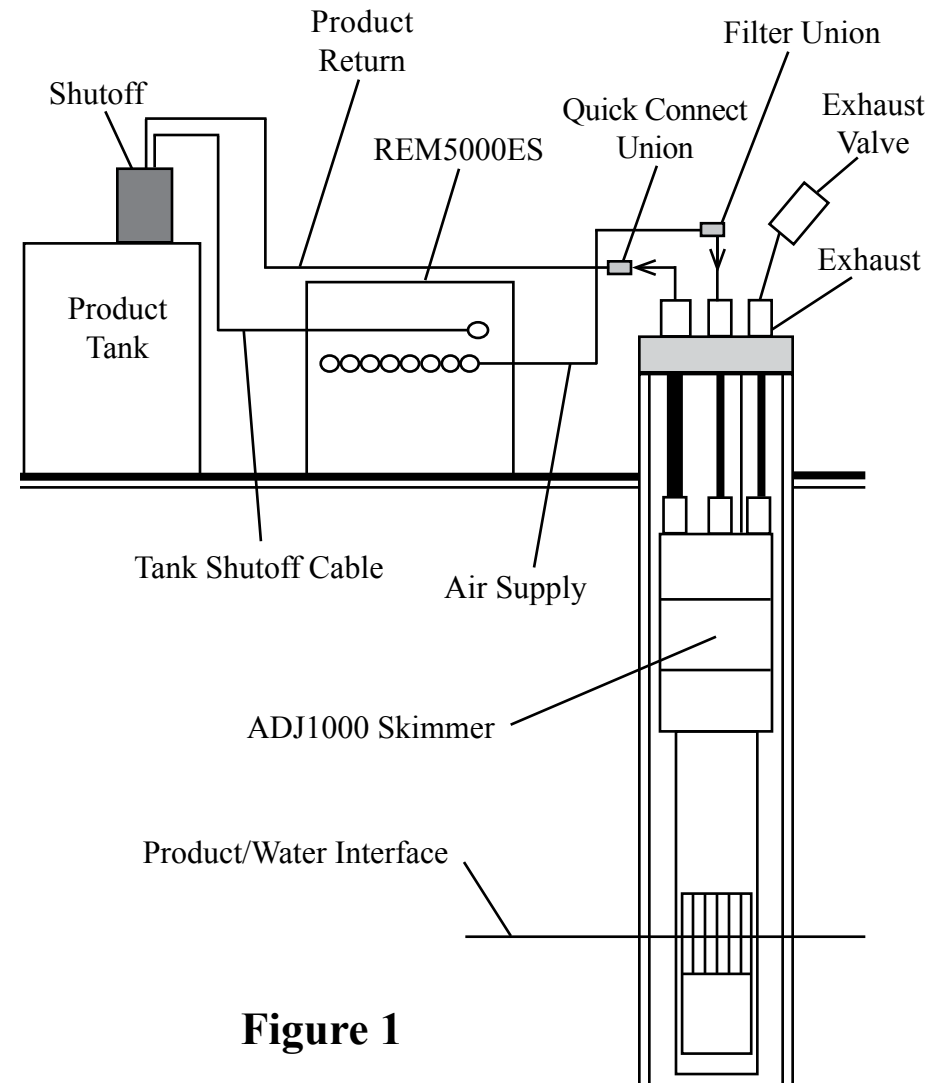
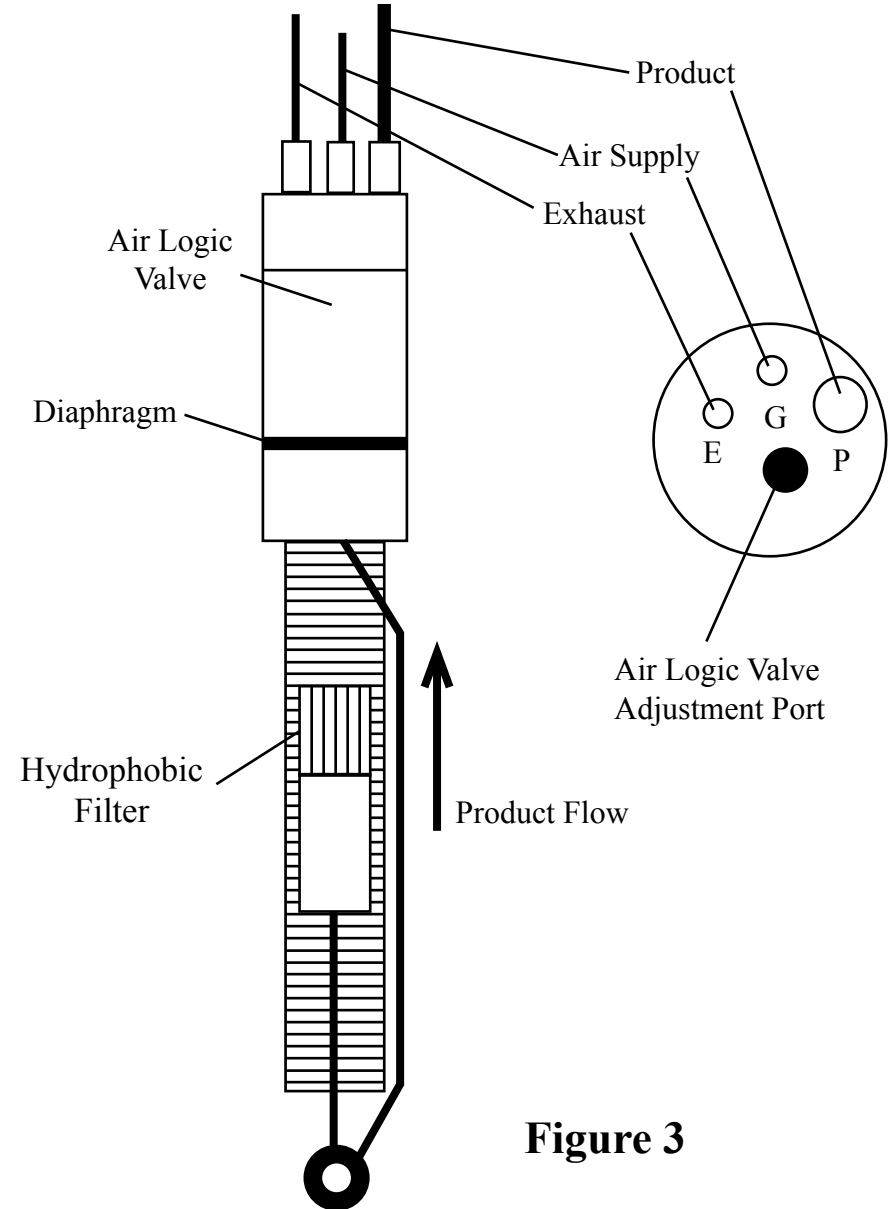

Figure 1
Figure 3
The system (Figure 1) relates to floating hydrocarbon recovery in wells two inches in diameter and larger. This system includes: an intrinsically safe ADJ1000 pneumatic Smart Skimmer (Figure 3) which removes only the product to a sheen down to 200 feet deep; and a solar powered Control Station Model REM5000ES which operates up to 8 skimmers intermittently, records run time, and has a high level tank shutoff assembly.
STEP 2. Install holding tank shutoff assembly into holding tank (a 2" standard pipe inlet will be required in the holding tank). The level of product in the holding tank can be set by raising or lowering the liquid level float switch rod. Plug the high level shutoff switch cable connector into the left end of the controller (Figure 1).
STEP 6. Position the skimmer and well cap on the ground near the well. **NOTE:** If the skimmer is over 60 feet deep, use a vented design skimmer. Cut a length of 3/8" OD air supply tubing to cover the distance from the top of the well down to water/product interface, plus 5 feet. Slide enough tubing through the well cap and attach the end of the tubing to the top of the skimmer tube fitting labeled "G" (Figure 3). If the product thickness is greater than 1 foot, position the skimmer's "Black Reference Line" on skimmer well screen 1 foot below top of product. If the product thickness is less than 1 foot, position the skimmer's "Black Reference Line" on skimmer well screen at the water/product interface.
STEP 7. Cut a length of 1/2" OD product tubing same length as the air supply line. Install 1/2" OD product tubing through the well cap tube fitting labeled "P" (Figure 3). Slide enough tubing through the well cap and attach the end of the tubing to the top of the skimmer tube fitting labeled "P". **CAUTION:** Do not kink the tubing.